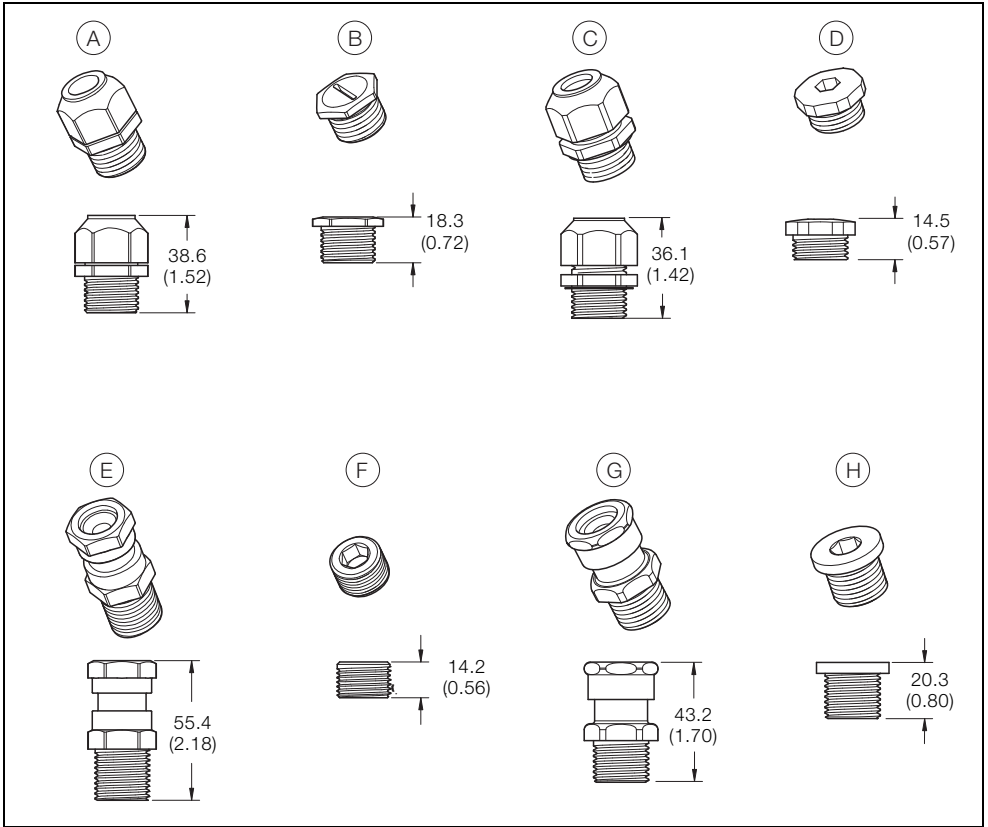

Fig. 4.1 Cable Glands and Plugs
2. Route the sensor wiring through one of the three threaded connections in the transmitter housing and use an appropriate gland (refer to Fig. 4.1, page 27 for gland options). Note, a cable gland must be used.